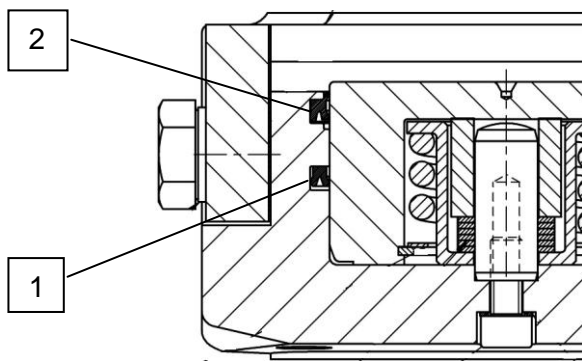
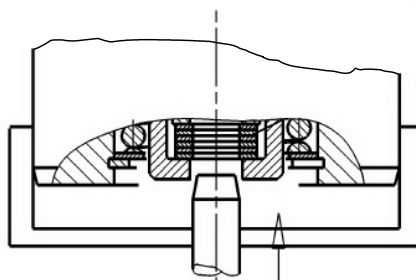

Fig. 6.1
Fig. 6.2
- Remove the brake caliper-halves. Remove the 4 cylinder screws (11). Note that the cylinder screws are slightly pre-tensed by the compression springs (12). Connect a hydraulic fluid line to each of the brake caliper-halves and connect a hydraulic hand pump to the second hydraulic fluid connection. Hold or clamp the brake housing (5) firmly in place. Push the brake piston (4) out with the aid of the hand pump. Make sure that the brake pistons is pressed evenly out of the brake caliper housing (5).
- Remove the old seal (1) and the old double wiper (2) and install the new seal and the new double wiper in the brake caliper housing (5). Observe the correct installation position for the seal as shown in Fig.6.1. The incorporation should occur by hand to ensure that the sealing edge is not damaged. The seal and the double wiper can be inserted more easily by bending it into a kidney shape and laying it into the groove. Oiling the seal with a light coat of Molycote prior to assembly. Centering before installing the piston (4) the gripping rings in the piston to bore or outside diameter of the piston with a conically turned pin (see Fig 6.2). Push the piston centric with a press or beat with a plastic hammer into the cylinder bore to the stop point.